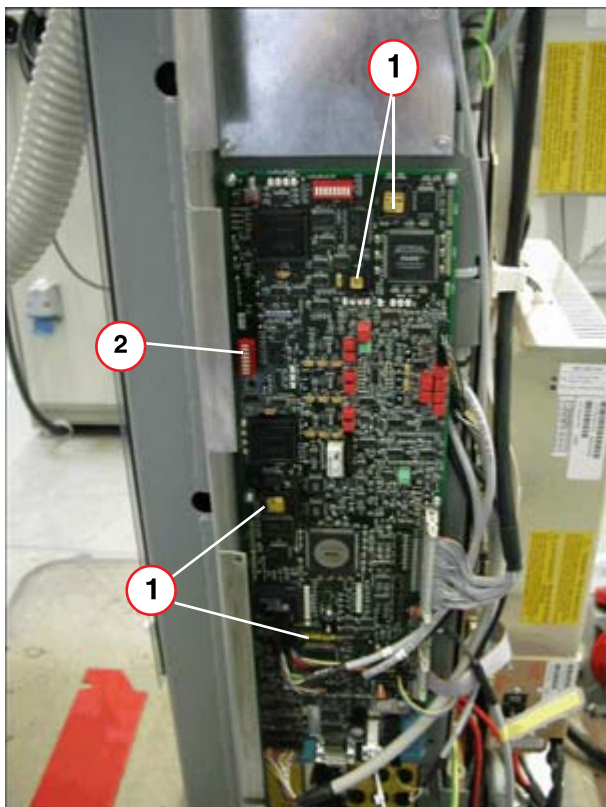

Fig. 13: D750
- IC 45, IC 53, IC 62, IC 52 have to be moved from the old to the new board(1/Fig. 13 / p. 38).
- Check the position of switch S5 and the bridge on ...X754 1-2 (2/Fig. 13 / p. 38).